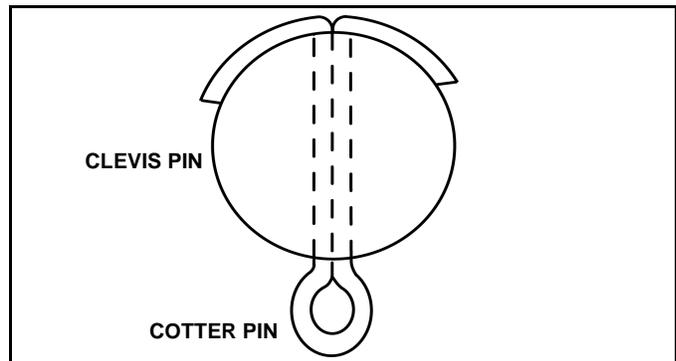
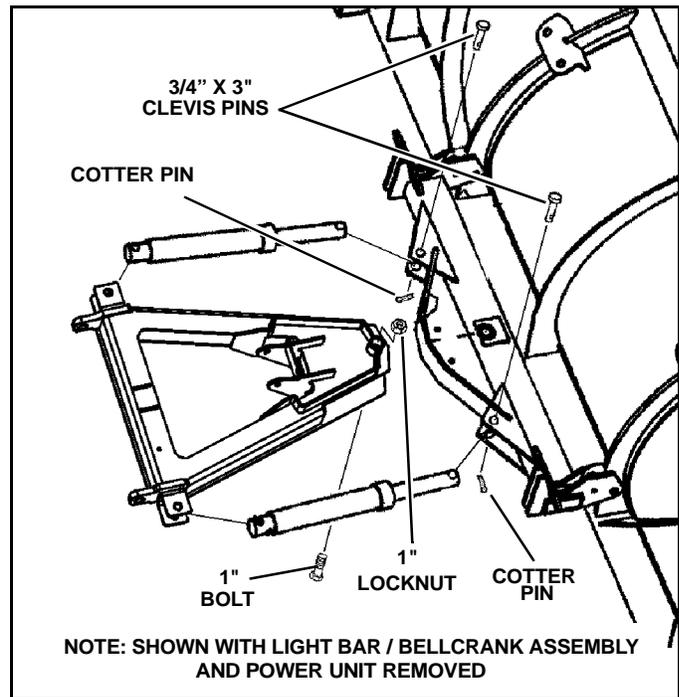
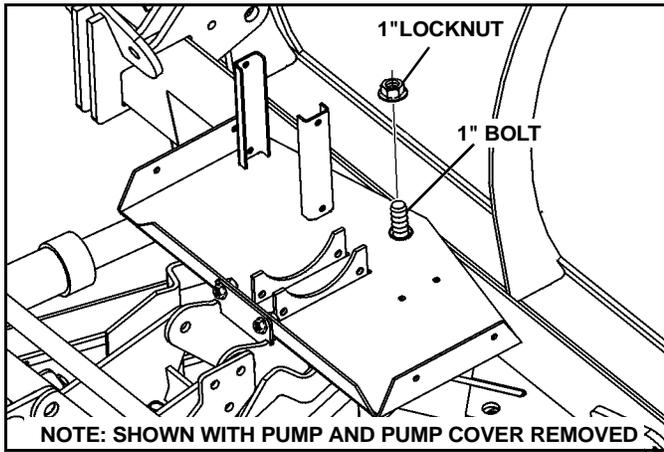

Figure 1-5
Figure 1-11
Figure 1-12
*NOTE: Make sure cotter pin is properly bent or pin may work loose. (See Figure 1-5)*
4. Remove 1" locknut and bolt. Slide swing frame into A-frame. Replace 1" bolt and locknut and tighten. (See Figure 1-11 and Figure 1-12)
6. Remove cotter pins and 3/4" clevis pins from rod end of cylinders. Reconnect the power and control. Extend cylinders using plow control to align holes in cylinder rod and swing frame. Insert 3/4" clevis pins and secure with cotter pins. (See Figure 1-11) Bend cotter pin as shown in Figure 1-5 to prevent it from working loose.